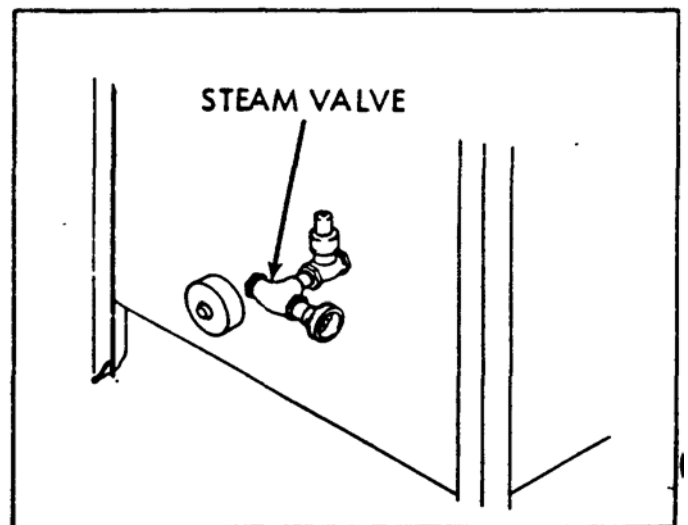
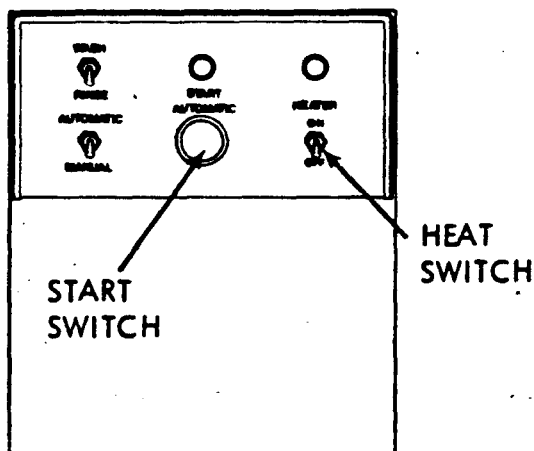
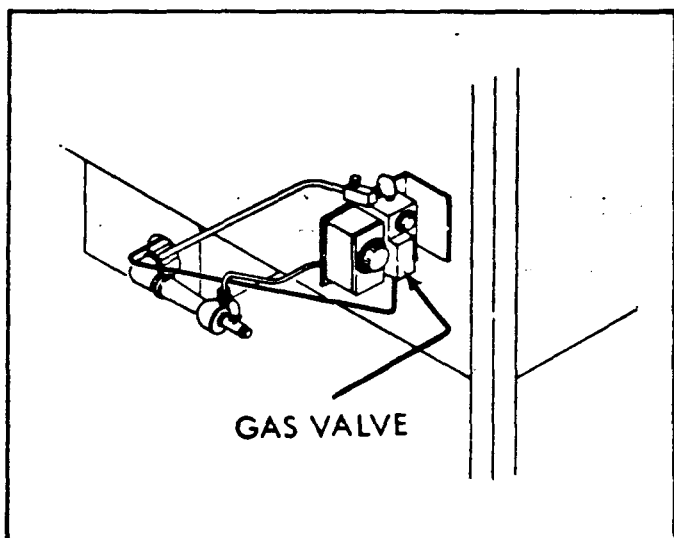

Figure 5
Figure 6
Figure 7
4. Turn on the steam valve if your dishwasher model is steam-heated (See Figure 5). Turn on the electric heat switch if electrically heated (See Figure 6). Turn on the gas valve; be sure the burners are lit if gas-heated (See Figure 7). Open the valves on the water and steam line to the booster (if your model has one).
7. Slide the loaded rack to the center of the machine. Close the doors. Start the automatic timer by pressing the starter switch (See Figure 6). The